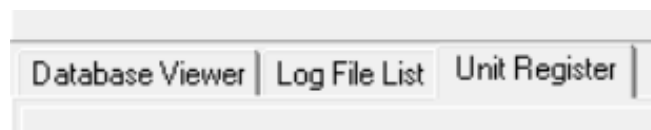

Figure 39
- Once the USB flash drive has been inserted the **Log File List** tab will be displayed between the Database Viewer and the Unit Register tabs (**Figure 39**)